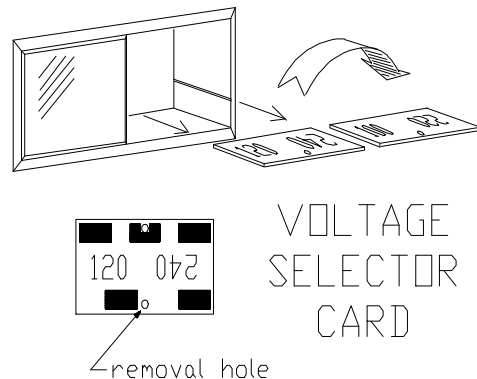

Figure 3 Select Line Voltage
*NOTE: The line-voltage-select card is pressed tightly into place. A fair amount of force is required to pull the card out. As shown in **Figure 3**, the card has four orientations.*